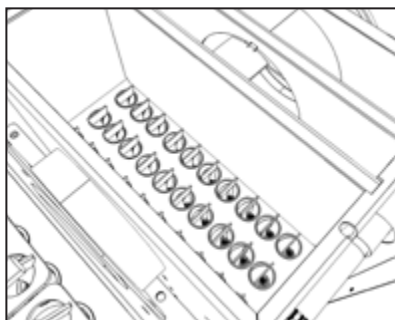

Figure 11-9: Spiral baffles
- Re-fit spiral baffles into heat exchanger tubes, such that all the top edges of the baffles are running 'front to back'. Refer to Figure 11-9.